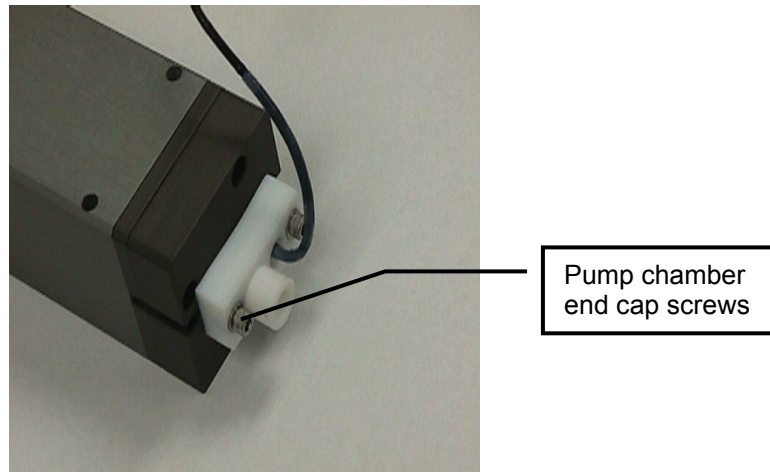

Figure 5-5. Removal of Pump Chamber Assembly End Cap
- 6) Remove the pump chamber end caps that secure the flashlamp within the pump chamber, Figure 5-5.